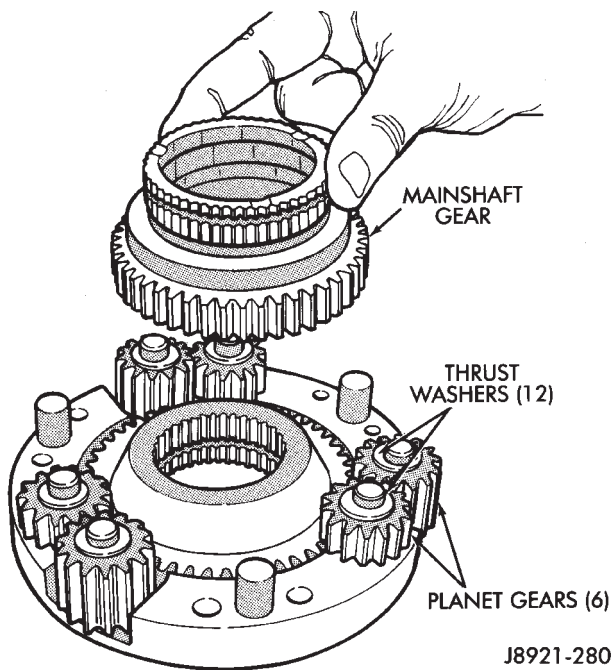

Fig. 61 Installing Mainshaft And Planet Gears
- (3) Install differential planet gears and new thrust washers (Fig. 61). **Be sure thrust washers are installed at top and bottom of each planet gear.**
- (4) Install differential mainshaft gear (Fig. 61).